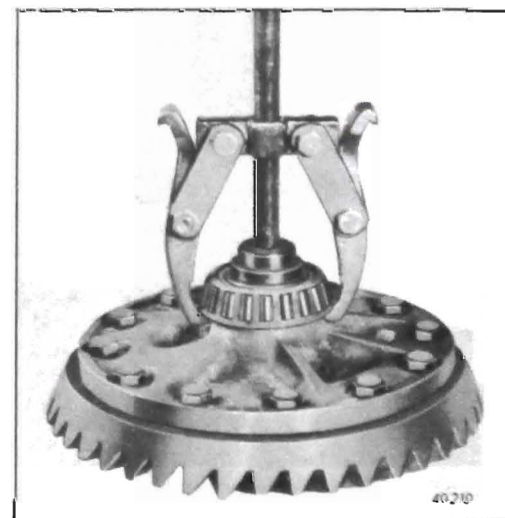

Figure 40-133 Removing Differential Side Bearing
1. If differential side bearings are to be replaced, insert Remover Adapter J-2241-8 in center hole and pull bearing using Puller J-22588. See Figure 40-133.